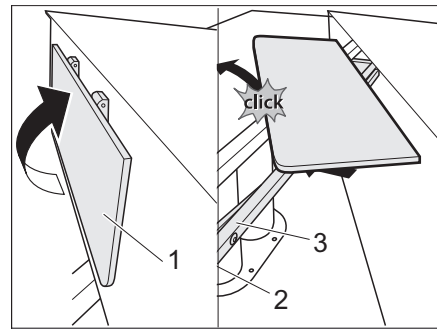

Fig. 112 Position the support edge
- Unlock the support edge (Fig. 112,1) and swivel it upwards until it locks into place.